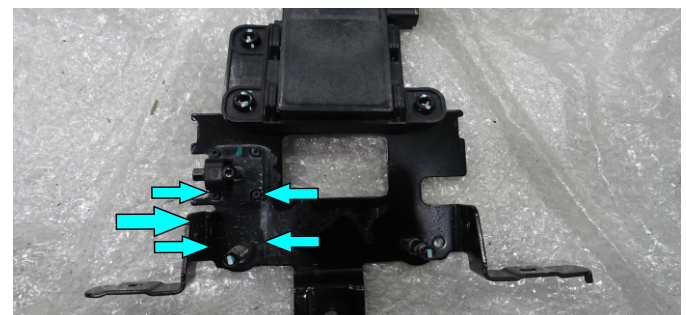

Fig.62
59. Remove radar from factory bracket, and after that the adjusting mechanism (fig.62).